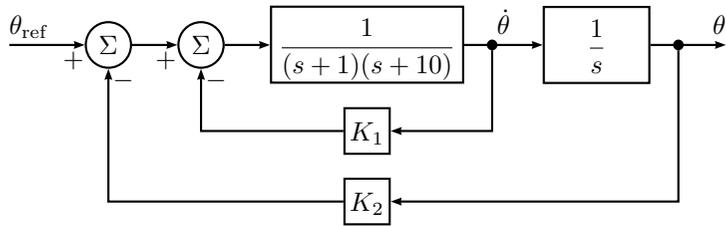

Figure 3.8a
3.8 The block diagram in Figure 3.8a shows a cascade controlled DC-motor where  $K_1 > 0$  and  $K_2 > 0$ .